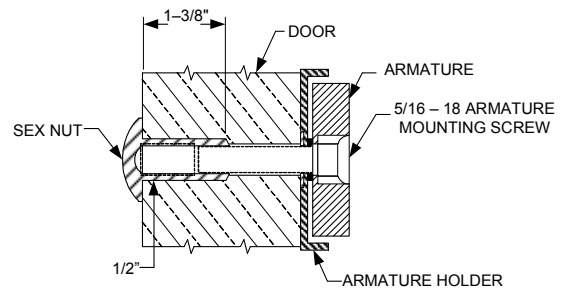

Figure 2A – SOLID DOOR
STEP 1. Mount armature to door. (See figures 2A, 2B & 2C.)
Drill exactly 3/8" diameter through the door. From sexnut side of door, drill 1/2" diameter hole 1-3/8" deep. Mount armature to door with hardware provided per Figure 2A.